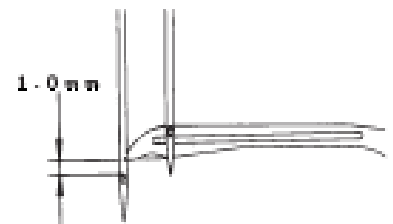

Fig. 6
B. Checking the Position of the Looper and Left Needle. When the looper point is behind the left needle centerline, it should be 1mm above the top of the left needle eye (see Fig. 6).